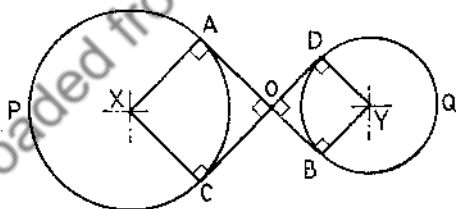

Fig. 43
(2) Two pulleys, 2 ft and 1 ft 6 in. diameter, are connected by a crossed belt, the straight sections of which are at  $90^\circ$  to each other. Calculate the length of the belt (fig. 43).